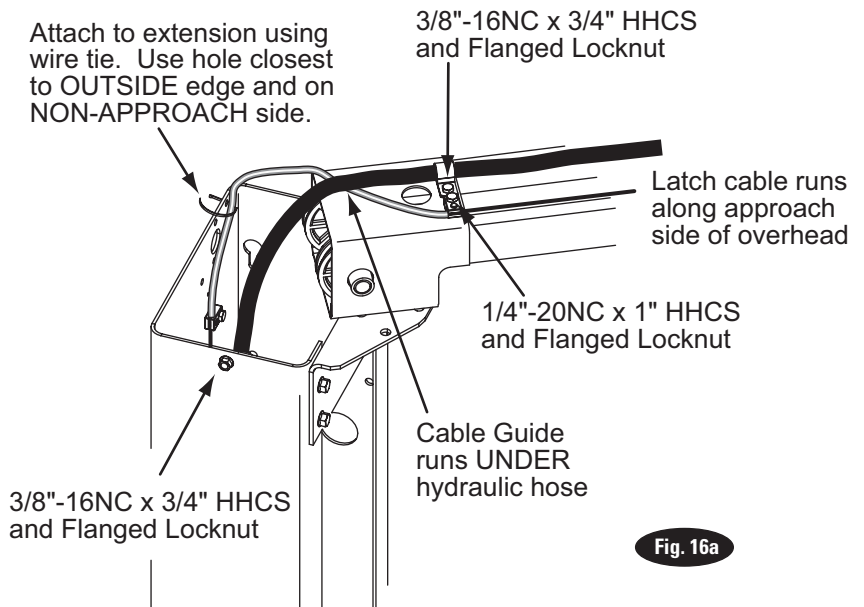
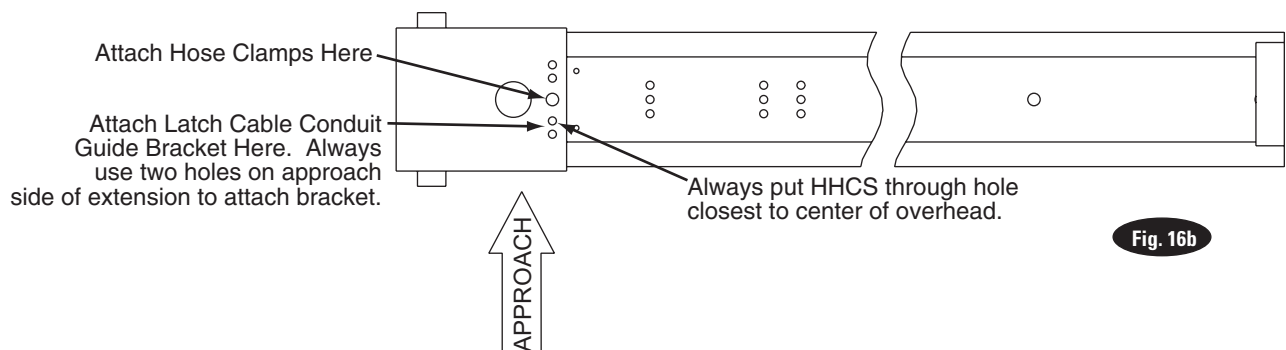
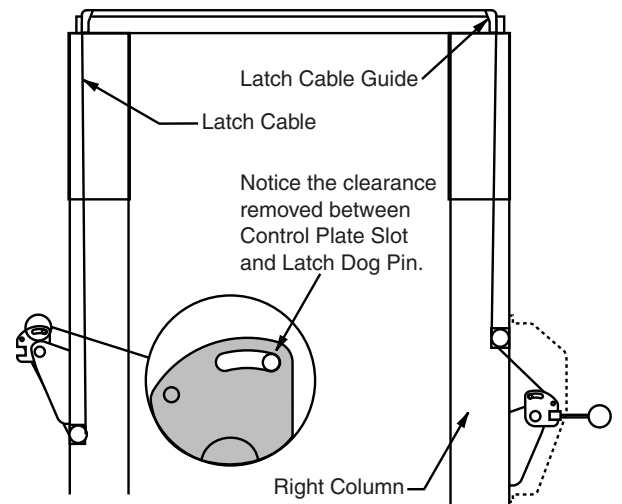
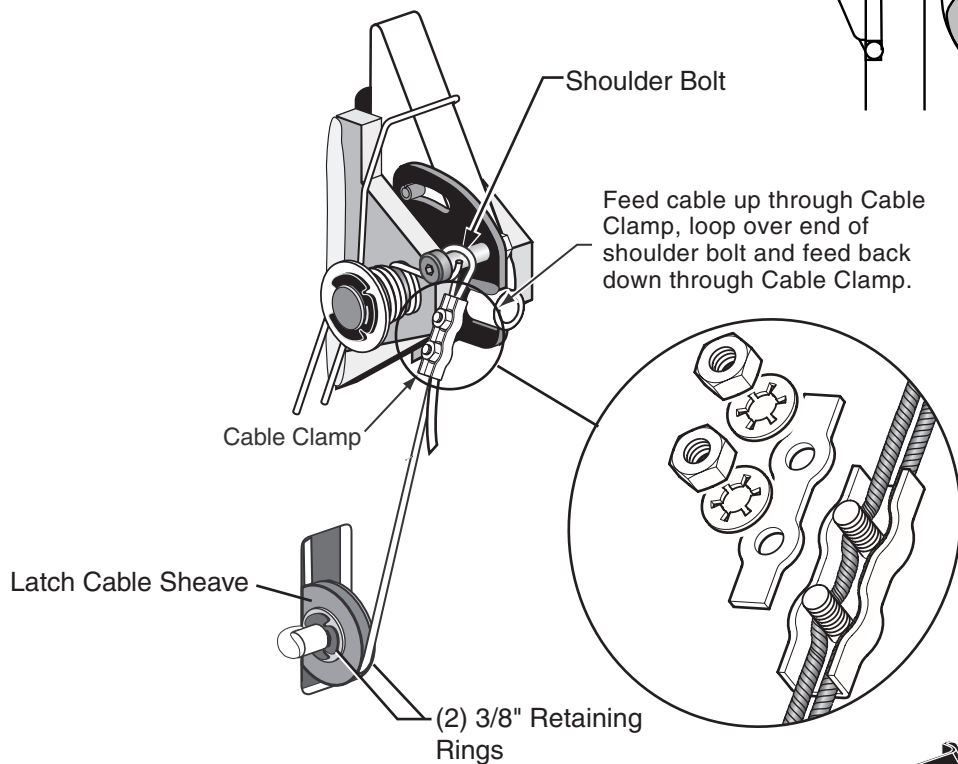

Fig. 16a
Fig. 16b
Fig. 18
Fig. 19
- D) Attach latch cable conduit guide brackets to overhead as shown, Fig. 16a & Fig. 16b. Always use the holes on the approach side of the lift. HHCS should be in hole nearest the center of the overhead, Fig. 16b.
- E) Route cable up inside column and through the latch cable guide, Fig. 16a & Fig. 18.
IMPORTANT Using wire ties provided, tie off cable guide to column extension as shown, Fig. 16a. Guide must be attached in hole closest to the outside edge of the column on the NON-APPROACH side.
- F) Continue routing cable to the left column latch cable guide, Fig. 16a & Fig. 18, routing the cable through the left column latch cable guide, Fig. 16a.
- G) Bring the cable down inside the left column and feed the end of the cable through the lower latch cable sheave slot so that the cable is now back outside the column, Fig. 19.
- H) Install latch cable sheave and retaining rings in lower slot of non-power unit column as shown, Fig. 19.
- I) Route cable under the bottom side of the latch cable sheave, Fig. 19.
- K) Insert cable in cable clamp along one side, loop around shoulder screw and back down, inserting cable along other side of cable clamp, Fig. 19. Place top back on clamp, barely tightening.
- L) Next, pull the control plate down, Fig. 18 & Fig. 19, to eliminate any clearance between the control plate slot and the latch dog pin, Fig. 18.